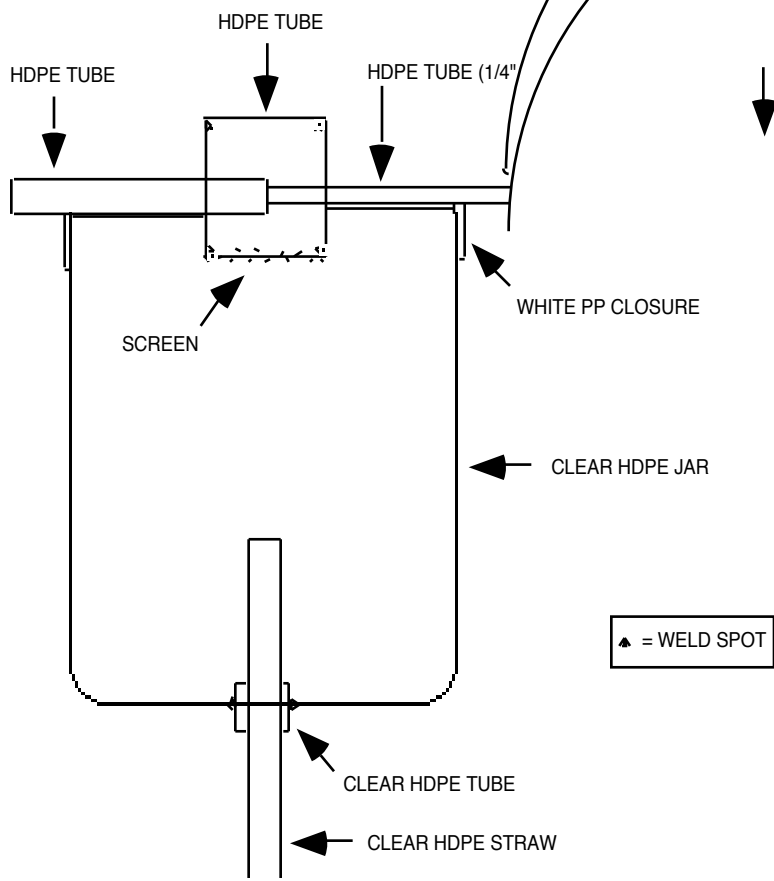
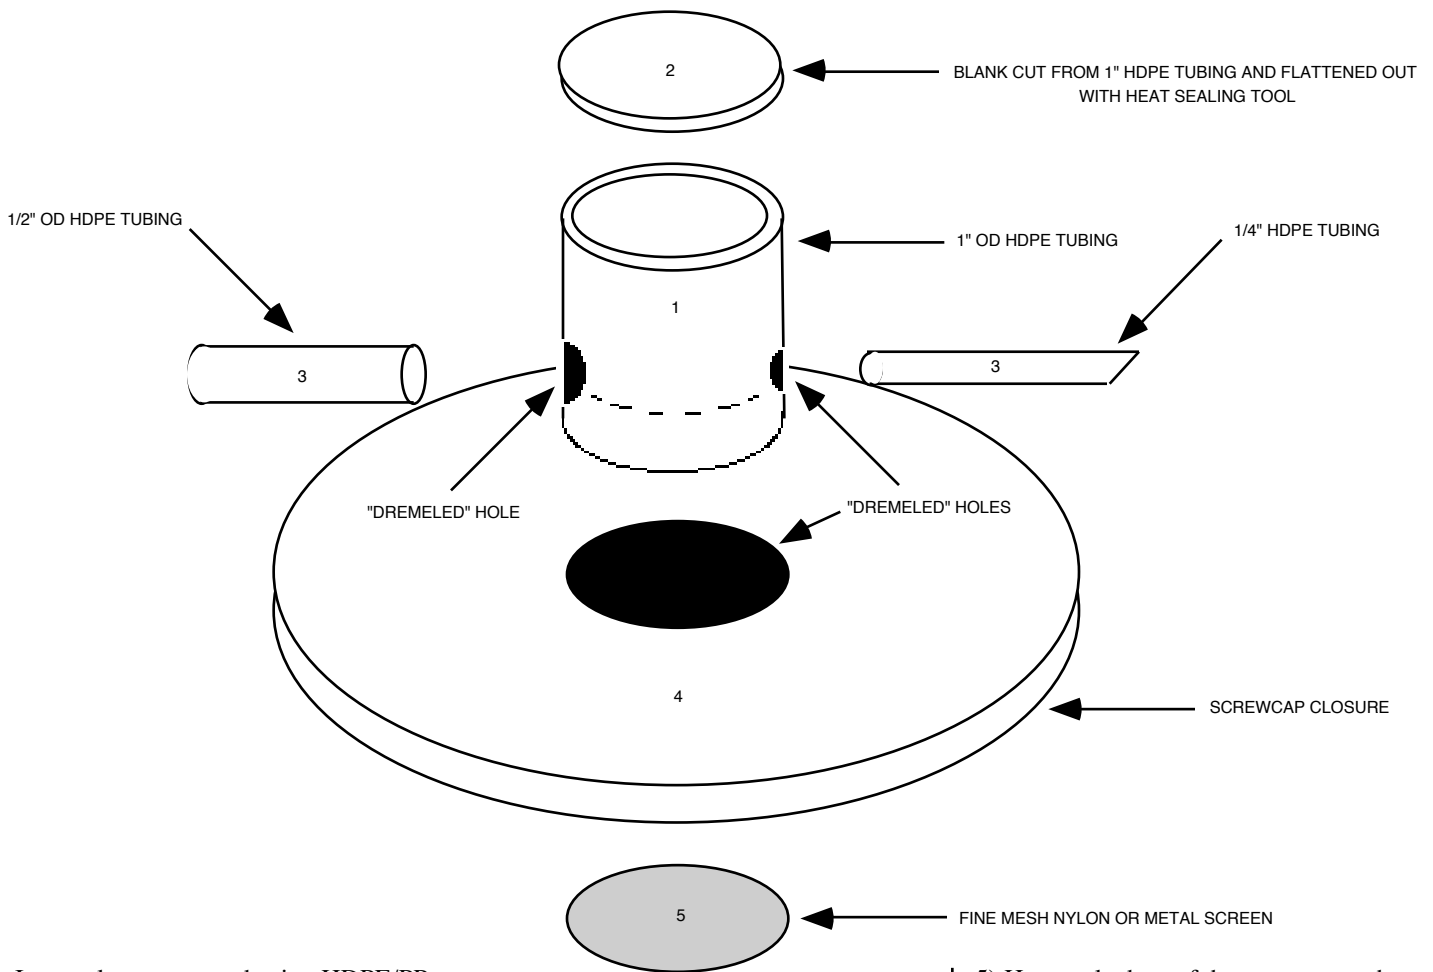

Figure 3.
Figure 4.
After finally losing the first model in the field, I tried several modifications using HDPE (high density polyethylene) wide-mouthed jars with PP (polypropylene) screw cap closures. The latest "Mark V" model (Figure 3) uses HDPE tubing for the venturi and chamber, heat welded into the screw cap. The inlet tube is made from a "sports cup" straw inserted inside a short length of HDPE tubing for rigidity, then the entire length is heat welded into the bottom of a HDPE jar. For the screen on the venturi chamber, I have used either very fine mesh nylon screen, or laser-drilled stainless steel (used in TV picture tubes) heat welded onto the interior end of the chamber. All the heat welding and shaping was done with a Dremel (*Ed. note: the poor man's dental drill*), box knife, and a "Monocote" heat sealing iron. The Monocote irons are available at some hobby shops for about \$20.00, and can be used to seal plastic bags as well as melt PP and HDPE for assembly. The time necessary to make one aspirator is about one hour with practice. Figure 4 (on Page 3) shows the assembly steps needed.
4) Heat seal "3" into the closure such that about 1/4" of the venturi chamber extends into (through) the bottom of the lid (this is the dotted line on part "1" in Figure 4). Heat seal "2" onto the top of "1."